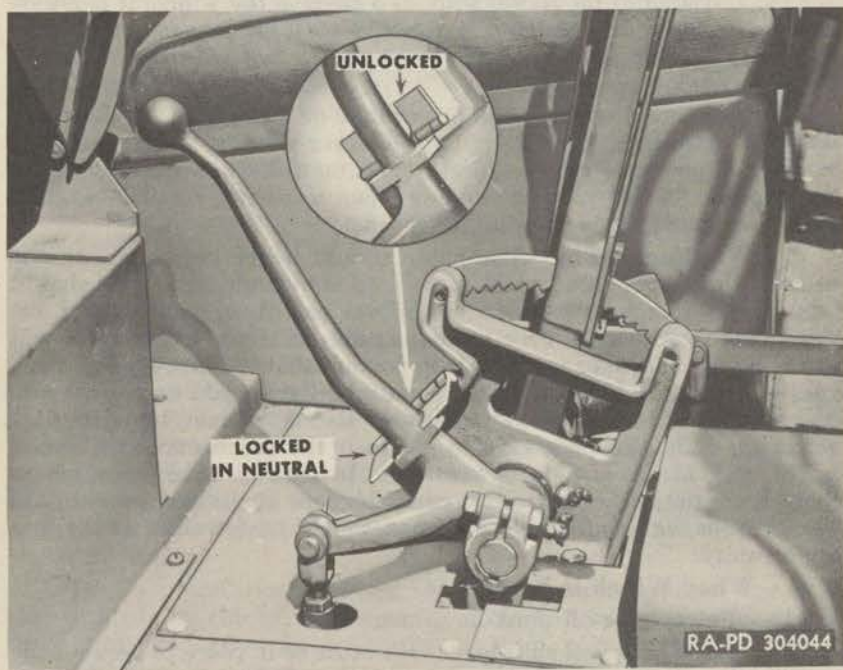

Figure 23—Winch Power Take-off Shift Lever
(1) Power take-off must be in neutral.
(2) Power take-off shift lever lock must be in place to prevent the power take-off from being thrown into gear accidentally (fig. 23).
(3) Winch sliding clutch must be in mesh with drum clutch so that drum will not turn due to vibration or weight of chains.
(4) End of cable must be securely wrapped around bumper hooks so that it will not come loose and drag.